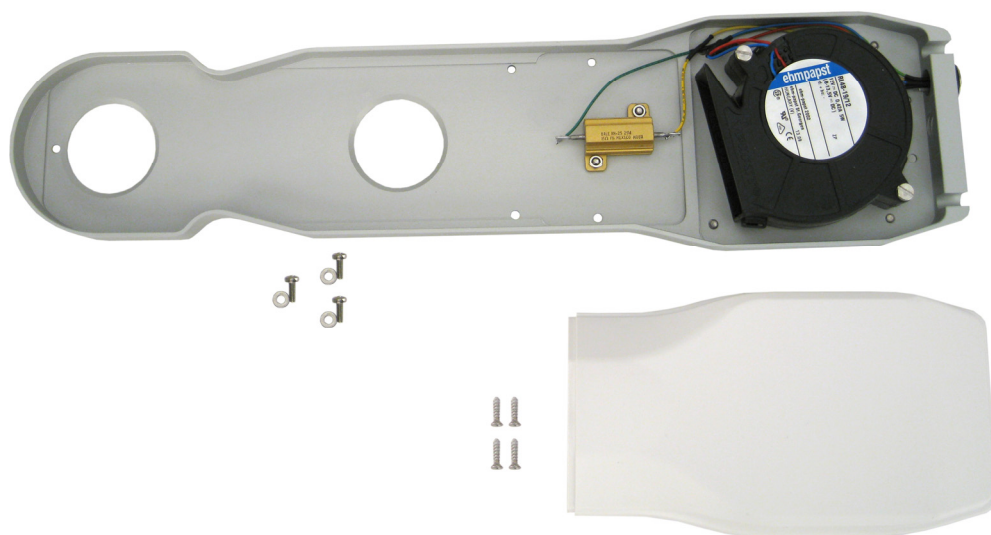

FIGURE B-1. CNF4 package contents
1. The CNF4 heater/ventilator unit comes with the following: the heater/ventilator, the white solar shield, three pan-head screws with washers, and four flat-head screws as shown in FIGURE B-1.